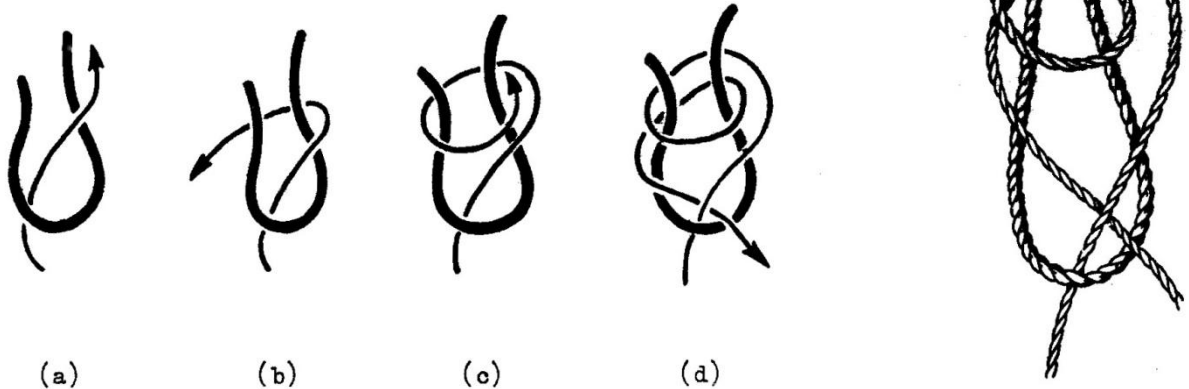

FIG. 6. DOUBLE SHEET BEND.
3.6 Double Sheet Bend. A double sheet bend (see Fig. 6) is for use when it is necessary to connect a small rope to a much larger one or where the ropes are likely to be wet. It is formed like the single sheet bend, but the end of the smaller rope is passed twice around the bight of the larger one, as shown in Figs. 6a, b, c and d.